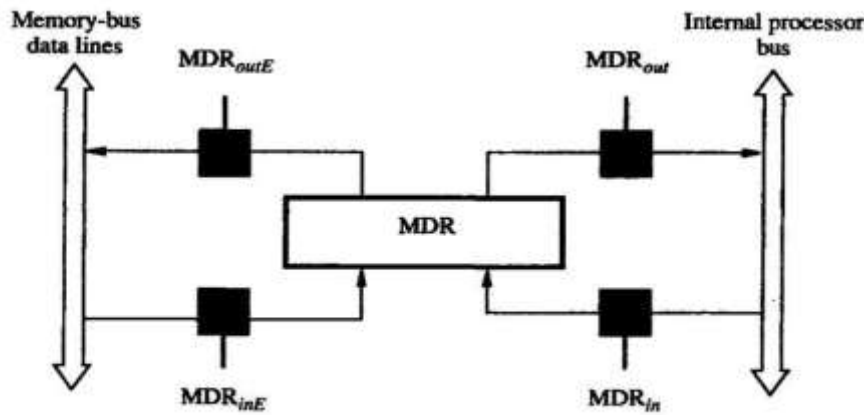

Figure 7.4 Connection and control signals for register MDR.
- The Connections for register MDR has shown in fig 7.4
- The MDR register has 4 control-signals (Figure 7.4):